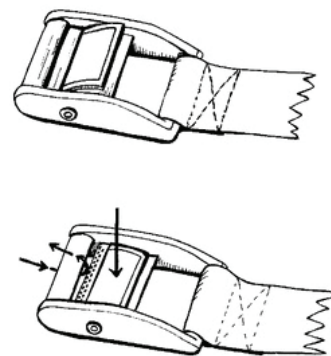

Figure 32
STEP 6: Have one (1) adult place their weight on the bottom ladder rung. Doing so shall seat the ladder into the ground. **NOTE:** The bottom ladder rung must be flush with the ground for safe operation.
STEP 7: With the top stabilizer straps installed as previously outlined, slip the tree belt through the loops on the bottom of the stabilizing straps (as shown in Figure 31), thread the cam buckle as shown in Figure 32 and cinch the tree belt tight. Make certain the tree belt is not twisted and is very tight. With the tree belt installed and tightened, and while standing on the ground, pull the two (2) stabilizing straps tight. Do not over-tighten.